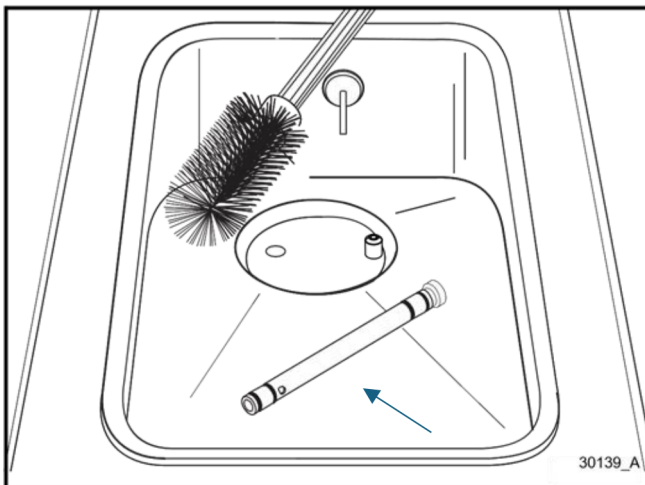

Figure 5-10
4. While solution is flowing into the freezing cylinder, brush-clean the mix hopper making sure to brush the mix level sensing probe, the mix inlet hole, and the feed tube. (Figure 5-10.)